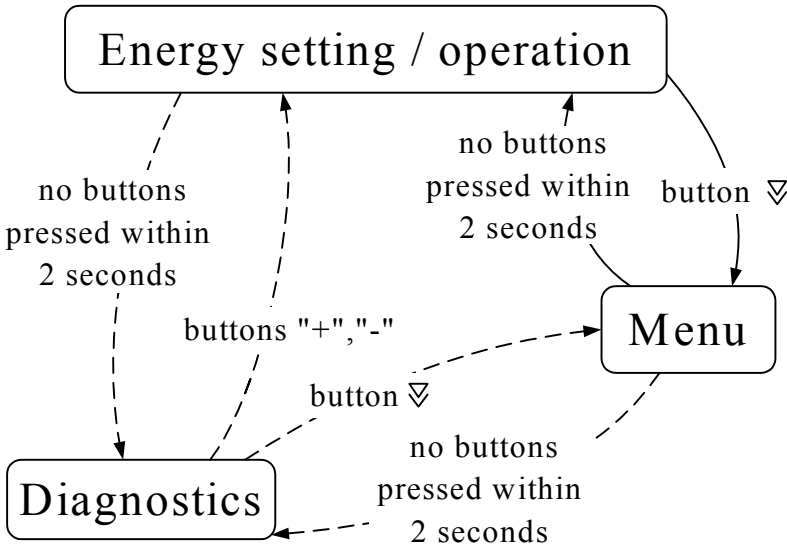

Fig.4
6.2 A chart of the device's basic states is illustrated in the Fig. 4 (dotted lines mean that the Diagnostics mode is ON).